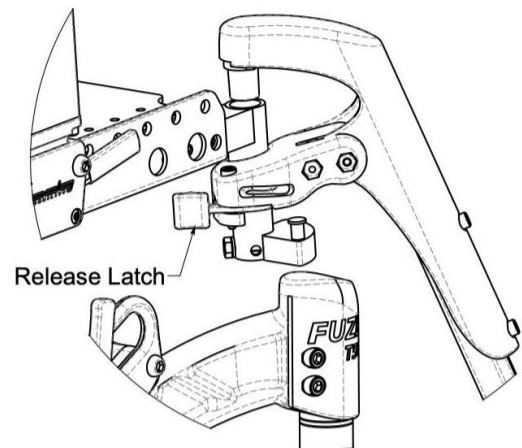

Figure 14.10: Swing-Away Front Rigging Latch Installation and Removal rigging
1. Orient the footrest at approximately 45° outboard of the wheelchair as shown in Figure 14.10
2. To release the locking mechanism, push the release lever as show in Figure 14.10